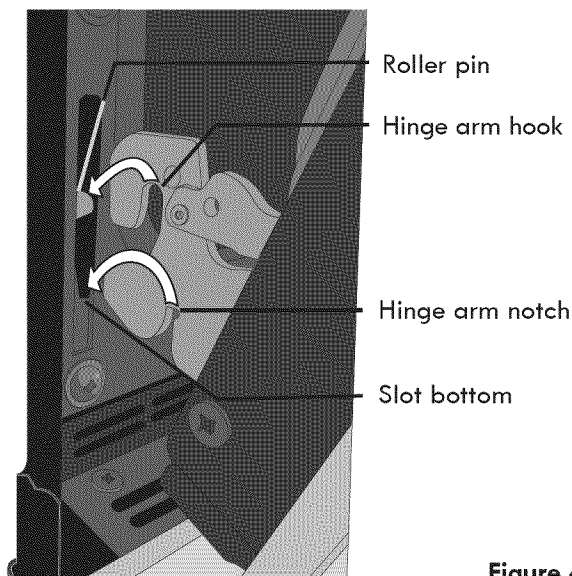

Figure 4
5. With the oven door in the broil stop position, lift the oven door hinge arms over the roller pins located on each side of the oven frame (See Figure 4).
2. Holding the oven door at the same angle as the removal position, seat the hook of the hinge arm onto the roller pins located on each side of the oven door frame (See Fig. 4). Also, seat the notch of the hinge arm onto the bottom of the slot at the same time you seat the hook. The hook and notch of the hinge arms must be fully seated onto the roller pins and bottom of the slot.